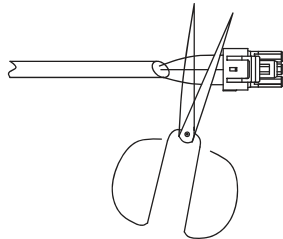

Fig. 18 — Shearing Outdoor Connector
1. Cut connector on outdoor unit side as shown in Fig. 18.